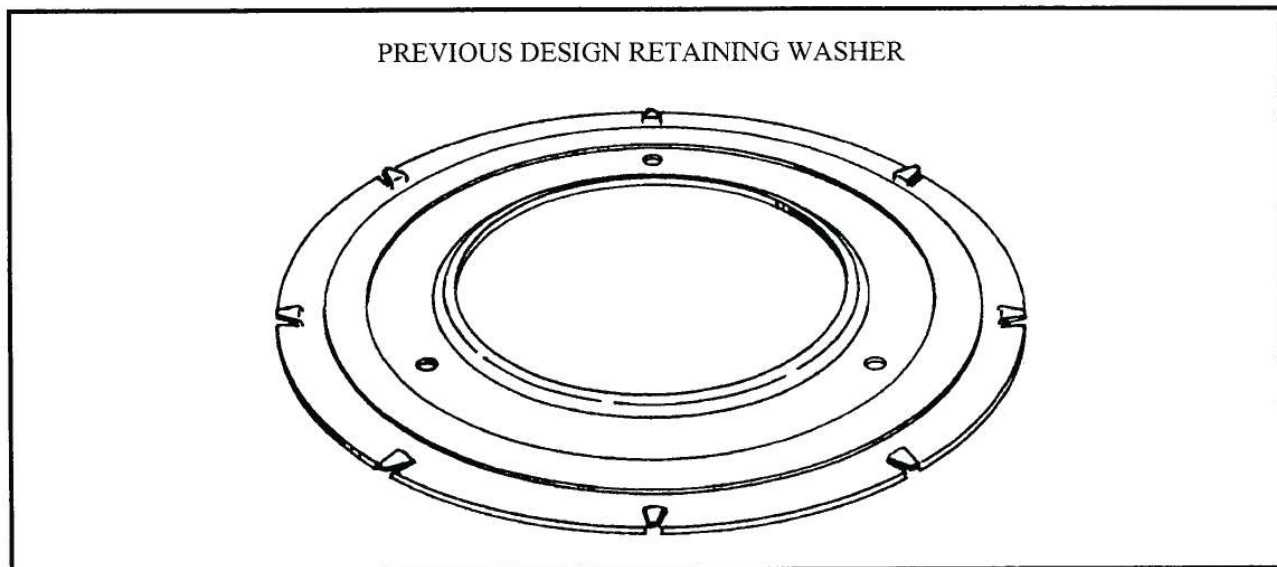

Figure 22
- (1) **OVERDRIVE SPRAG ASSEMBLY** - Previous design steel caged sprag must be used, as the plastic caged sprag is no longer serviced, which requires the use of the previous design ring gear and the previous retaining washer (See Figure 22).
- (3) **RETAINING WASHER** - Previous design retaining washer shown in Figure 22 must be used to accommodate the previous design overdrive ring gear.